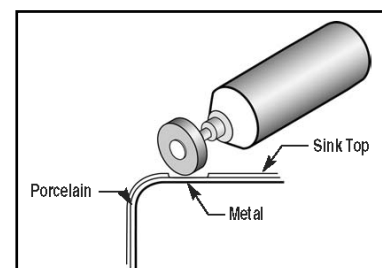

Figure 7: Grinding Wheel
- B.** Grind away a 1-1/4" diameter circle in the porcelain using a silicon/carbide wheel and high-speed grinder (See *Installation Tool List*), down to the metal surface of the sink. (See Figure 7)